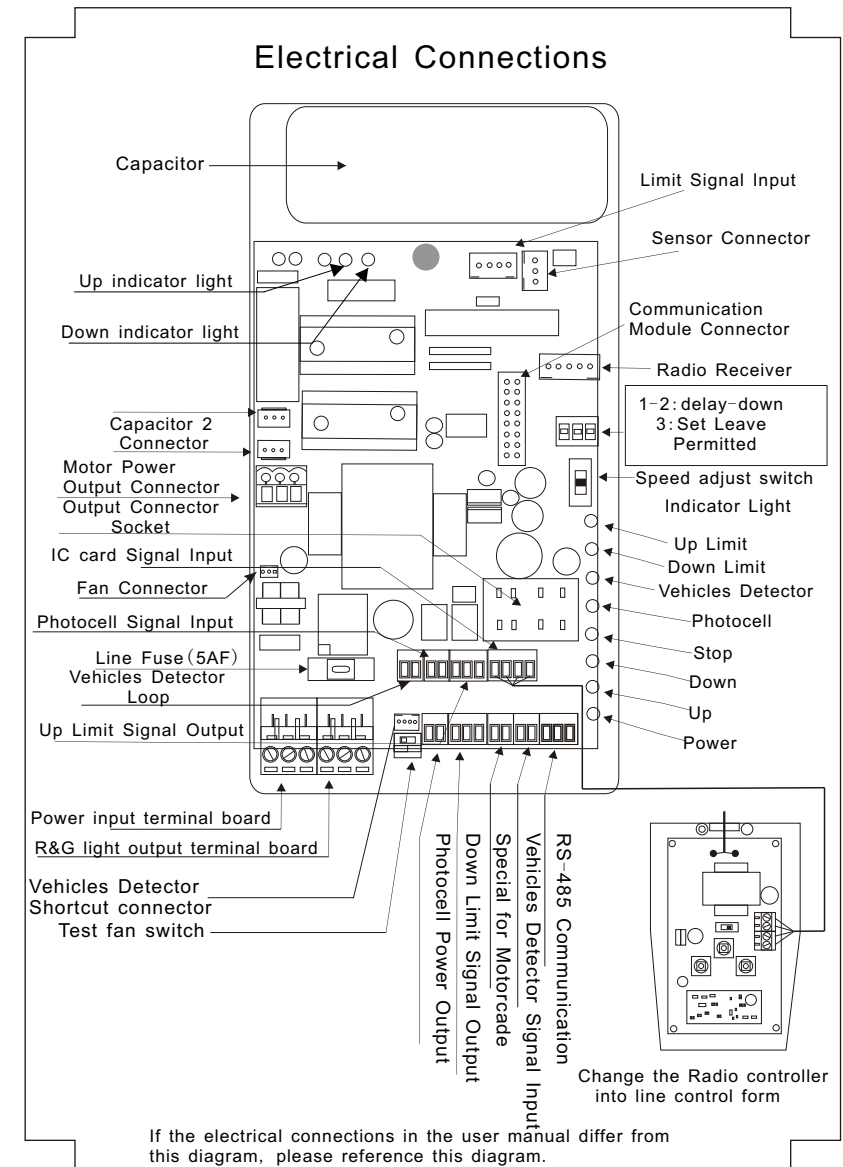

Fig. 12
7. 4) Installation and connections of the electric part(refer to Fig. 12)
This switch transmits the "UP" and "DOWN" command to boom by optical signal. (Notice: More details please refer to Fig. 12)